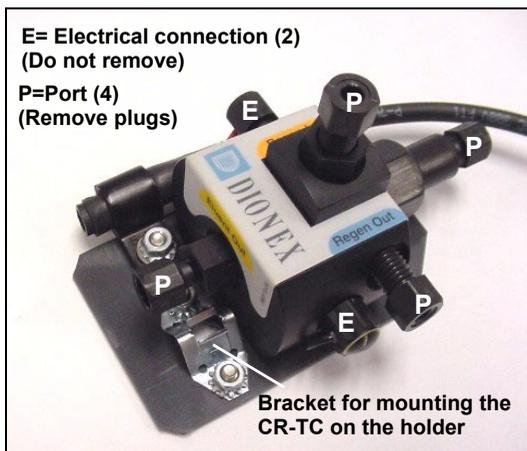

Figure B-29. CR-TC
2. Before installing the CR-TC, note the metal ball stud inside the bottom of the cartridge holder (see Figure B-28) and the bracket on the CR-TC mounting plate (see Figure B-29). These are used to mount the CR-TC inside the holder after it is plumbed.
3. Remove the plugs from the four ports, labeled “P” on Figure B-29. **Do not remove the two electrical connections, labeled “E” on the figure.**